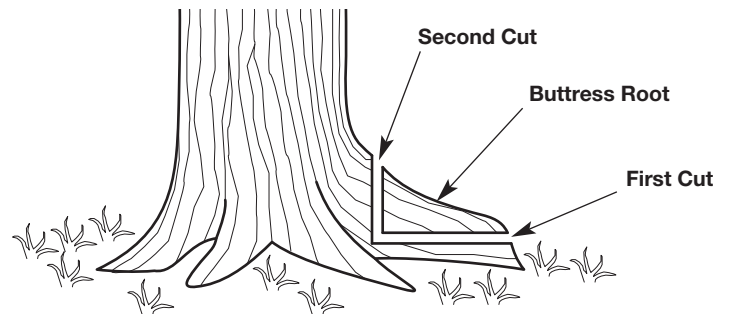

Fig. 16
1. Make a horizontal cut into the buttress root (Fig. 16). To prevent the guide bar from being pinched by the weight of the wood, always make this cut first.
2. Make a vertical cut into the buttress root (Fig. 16).